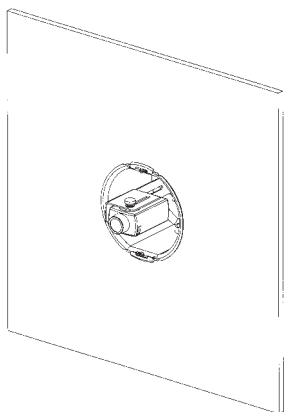

Figure 4
- Install box into pre-cut hole with the bottom flange pressing against the ceiling. Position the round section of the box in the direction that the camera will be aimed. See **Figure 4**.